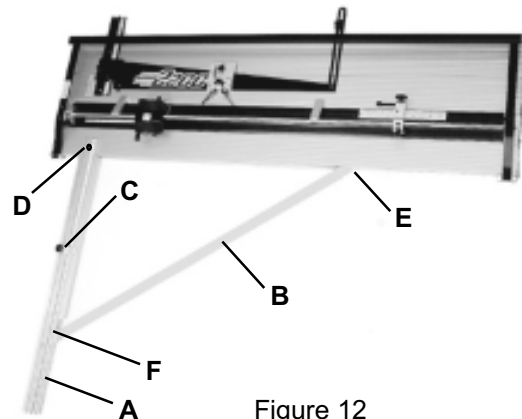

Figure 12
You will receive the **Right Squaring Arm** components disassembled into three parts, the **Right Squaring Arm (A)** with an inch/metric scale, the **Angle Brace (B)**, a **Squaring Arm Stop (C)** and fasteners. See Figure 12.
3. Remove the flat head screw and eccentric hex nut from the parts bag. Assemble this screw and eccentric nut through the **Right Squaring Arm** and the hole in the end of the **Angle Brace (B)**. Be sure the eccentric nut (**F**) is fully seated in the 7/16" hole in the **Angle Brace**. Leave it slightly loose.